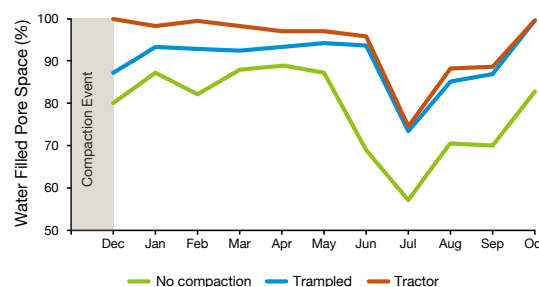

Figure 66. Impact of compaction on soil water filled pore space (%) at 0–10cm from December 2012 – October 2013 at SRUC
- Compaction also increased water retention in the soil by up to 20% throughout the season (Figure 66)